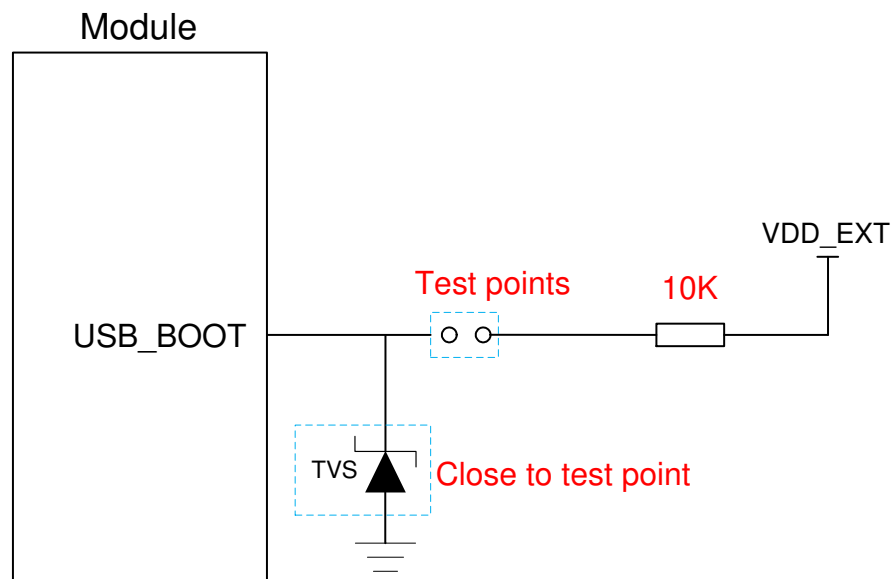

Figure 23: Reference Design of USB_BOOT Interface
3. When using MCU to control the module entering emergency download mode, follow the above timing. Connecting the test points as shown in **Figure 23** can manually force the module to enter download mode.